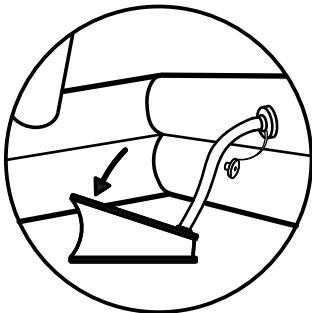
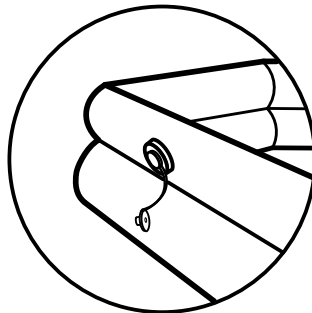
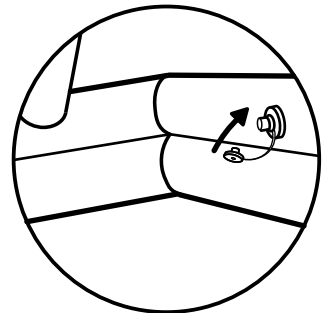

Fig 10 - Use the pump to top up the chambers
Fig 11 - Ensure pressure relief valves are not blocked
Fig 12 - Secure the sealing caps
6.2.2 Locate the pump, fit to the top up valves located near the entrance to the liferaft. Use the pump to top up the chambers (Fig10). Ensure the relief valves are not blocked (Fig 11) when this is done. Once this has been completed, remove the pump and replace the sealing cap securely (Fig 12).